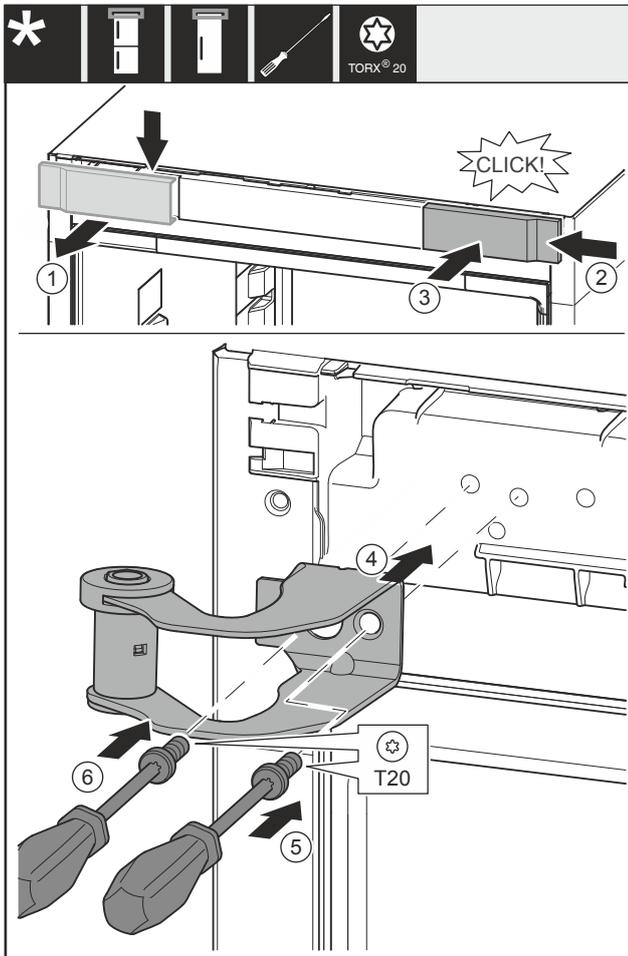

Fig. 36
- ▶ Remove the cover Fig. 36 (1) from above towards the front.
- ▶ Turn the cover Fig. 36 (2) by 180° and attach to the other side from the right.
- ▶ Engage the cover Fig. 36 (3).
- ▶ Place the top swap bearing block Fig. 36 (4).
- ▶ Screw the screw Fig. 36 (5) tight.
- ▶ Screw the screw Fig. 36 (6) tight.